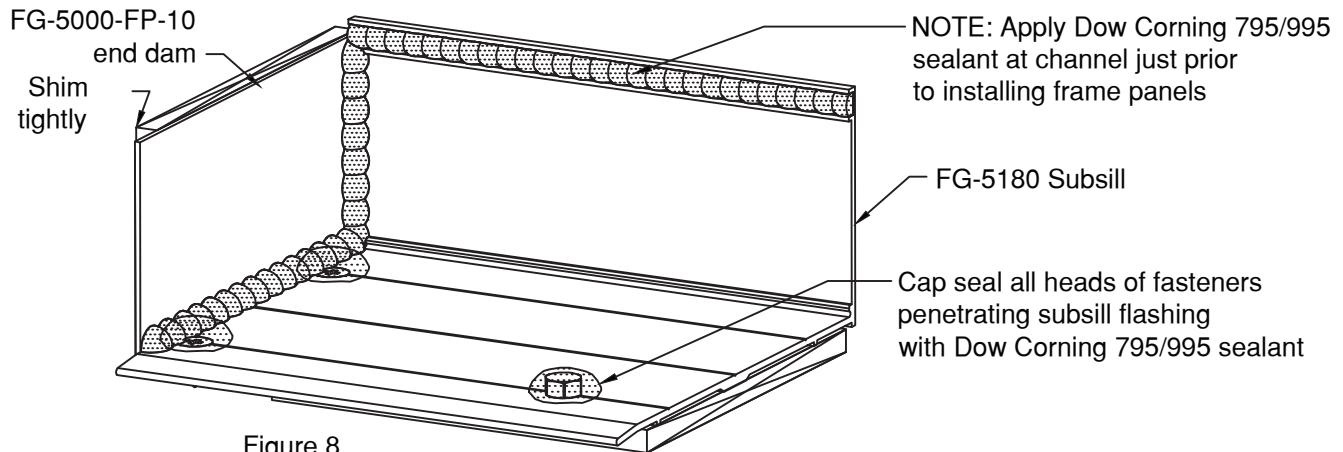

Figure 8
See Figures 8 and 9 on Page 13 for sealant to be applied during installation.
- 3.1.2 Wedge shims tightly between end dams and jamb substrate at each end prior to installing frame panels. These shims prevent the end dams from being dislodged while frame panels are being installed. Completely seal end dams as shown See Figure 8.